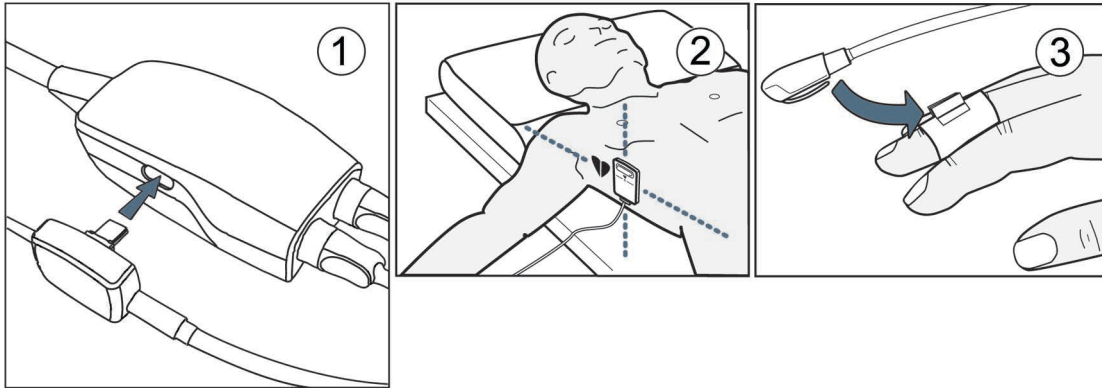

Figure 11-7 Heart reference sensor application
- 1 Connect the HRS to the wrist applied pressure controller. See ① in figure 11-7.
- 3 Apply the heart end of the HRS to the patient at phlebostatic axis level by using an HRS clip. See ② in figure 11-7.
- 4 Attach the other end of the HRS to the finger cuff. See ③ in figure 11-7